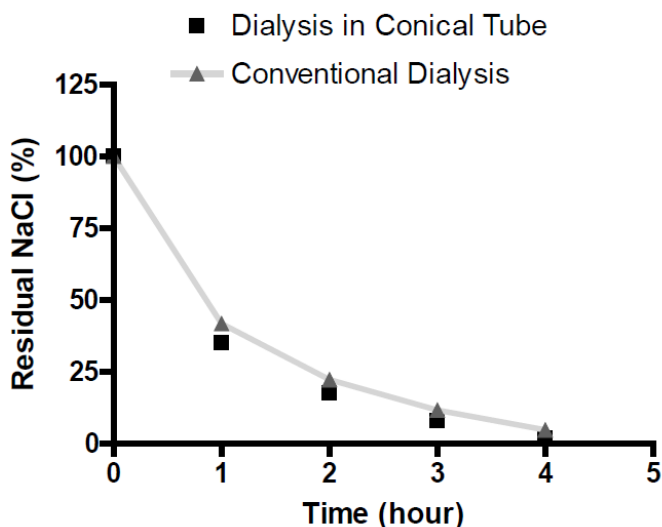
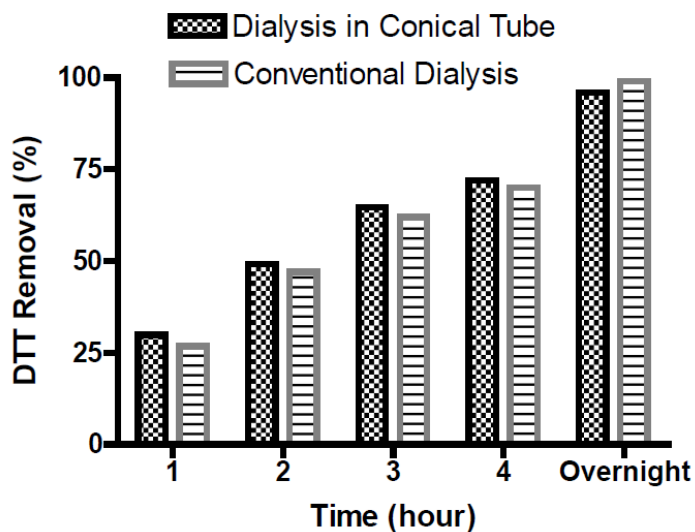

Figure 2 Rate of removal of NaCl in a Slide-A-Lyzer™ MINI Dialysis Device, 10K MWCO, 2 mL.
Figure 3 Rate of removal of DTT in a Slide-A-Lyzer™ MINI Dialysis Device, 10K MWCO, 2 mL.
- a. Dialyze for 2 hours at room temperature (RT) or 4°C.
- b. Change the dialysis buffer and dialyze for another 2 hours to overnight (see Figure 2 and Figure 3).